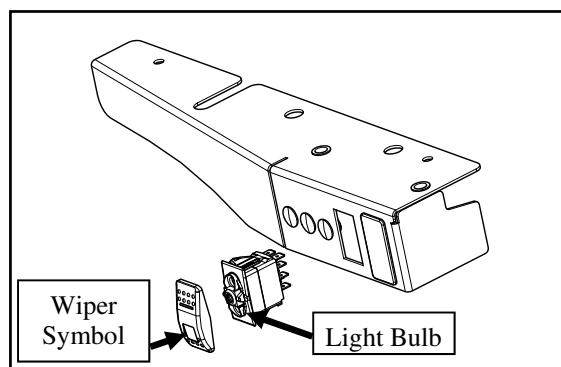

Fig. 14.2 (Cover Panel Installation)
14.2 Install the windshield wiper rocker switch into the cover panel so that the light bulb in the switch is toward the bottom. Slide the center pin of the red switch cover into the center toggle of the switch, with the wiper symbol toward the bottom, and snap into place. See Fig. 14.2.